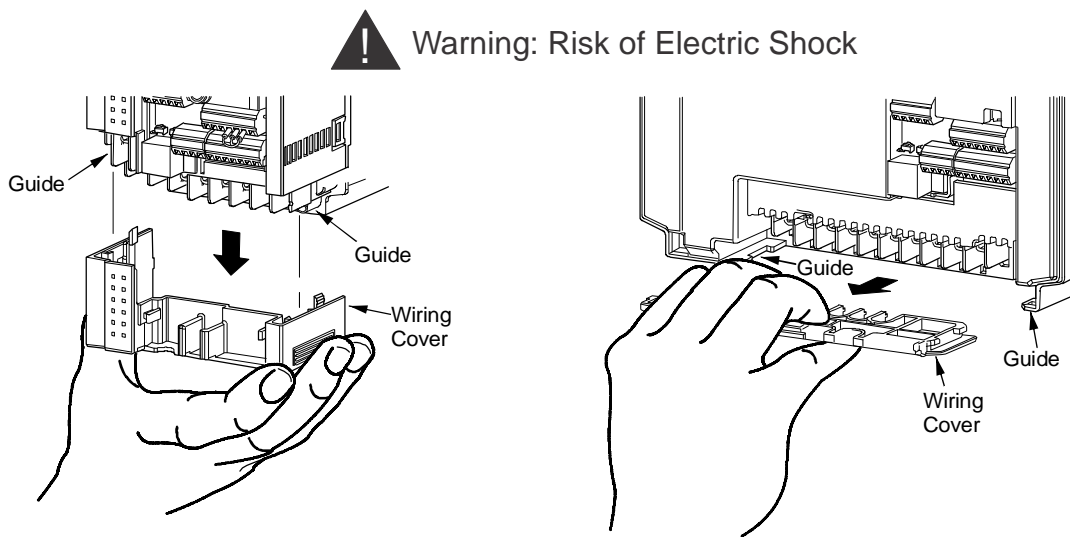

Figure 10: Remove the High-Voltage Wiring Cover
2. Remove the high-voltage wiring cover at the bottom of the VFD68 Drive (Figure 10).